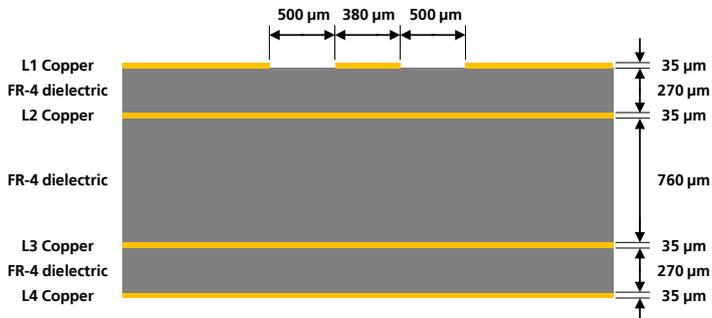
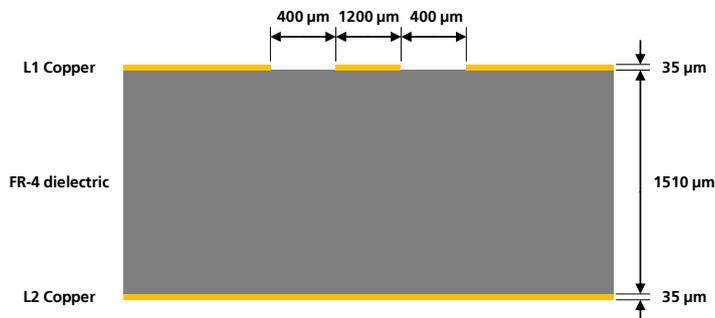

Figure 57: Example of 50  $\Omega$  coplanar waveguide transmission line design for the described 4-layer board layout
Figure 58: Example of 50  $\Omega$  coplanar waveguide transmission line design for the described 2-layer board layout
Figure 57 and Figure 58 provide two examples of proper 50  $\Omega$  coplanar waveguide designs. The first transmission line can be implemented in case of 4-layer PCB stack-up herein described, the second transmission line can be implemented in case of 2-layer PCB stack-up herein described.
- the thickness of the transmission line itself (e.g. 35  $\mu\text{m}$  in the example of Figure 57 and Figure 58)
- the thickness of the dielectric material between the top layer (where the transmission line is routed) and the inner closer layer implementing the ground plane (e.g. 270  $\mu\text{m}$  in Figure 57, 1510  $\mu\text{m}$  in Figure 58)
- the dielectric constant of the dielectric material (e.g. dielectric constant of the FR-4 dielectric material in Figure 57 and Figure 58)
- the gap from the transmission line to the adjacent ground plane on the same layer of the transmission line (e.g. 500  $\mu\text{m}$  in Figure 57, 400  $\mu\text{m}$  in Figure 58)